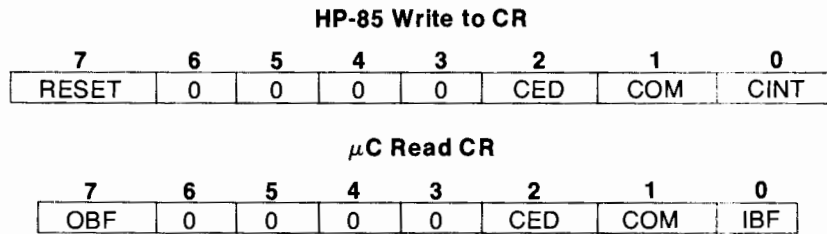

Figure 3-2. CR Bit Assignments
The HP-85 sends data to the μC via the output buffer register (OB) and defines that data by setting appropriate bits in the control register (CR). Both registers are physically located within the Translator IC. The OB is write-only by the HP-85 and read-only by the μC . Except for bit 0 and bit 7, the CR is also write-only by the HP-85 and read-only by the μC . Different status bits are read by the μC for bit 0 and bit 7 of the CR than those written as bits 0 and 7 by the HP-85. This is illustrated in Figure 3-2.